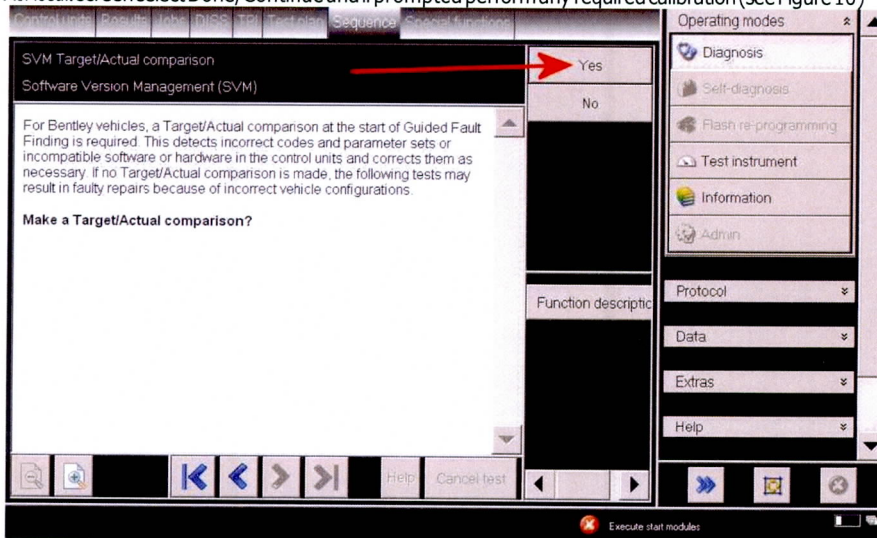

Figure 11
28. Select *Guided fault finding* to check and clear the vehicle of any fault codes generated as a result of performing this campaign. NOTE: When requested to *Make a Target/Actual comparison* this action should be performed, select YES. (see Figure 11)